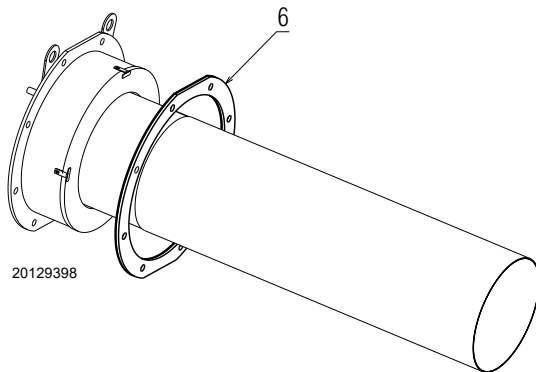

Fig. 18
- Check the correct positioning of the insulating gasket 6 6)(Fig. 18); the black side must be faced the burner flange and the white one to the boiler side.